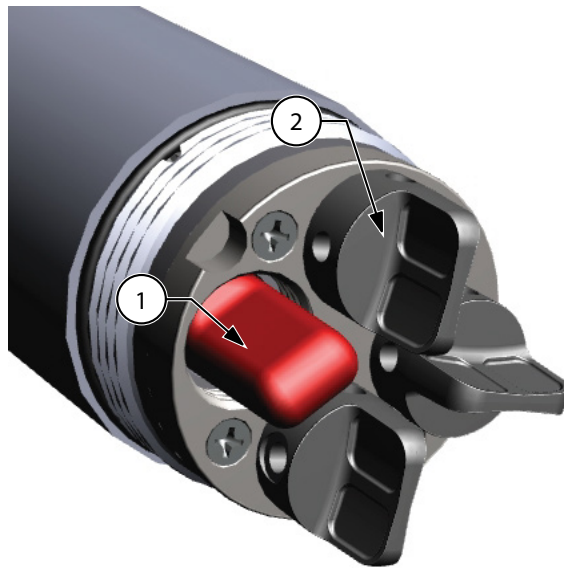

Figure 5 Port plugs
1. Remove and discard the dust plugs shipped with the instrument (Figure 5 on page 10).